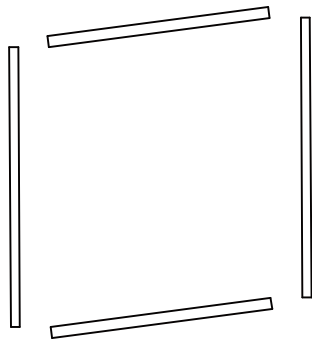
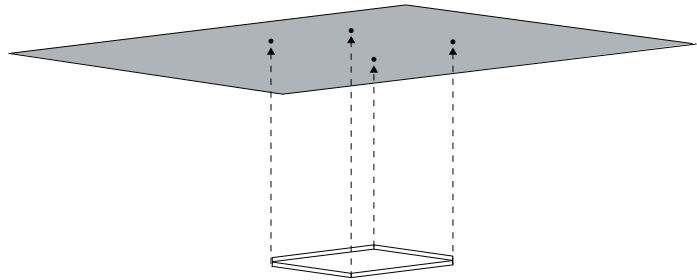

Fig. 9
Fig. 10
1. Assemble the mounting kit(Fig. 9), and attach to the ceiling using the expansion screws provided. (Fig. 10)